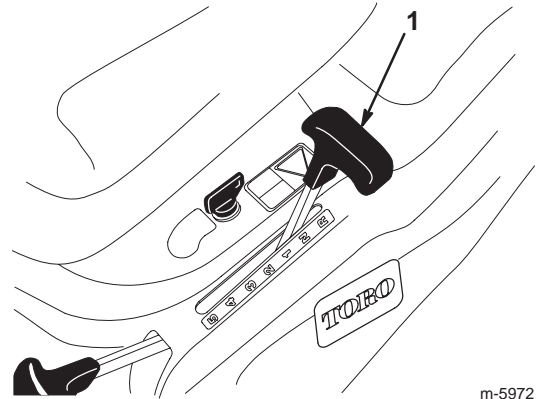

Figure 6
3. Shift the ground speed lever into Neutral (N) (Fig. 6).